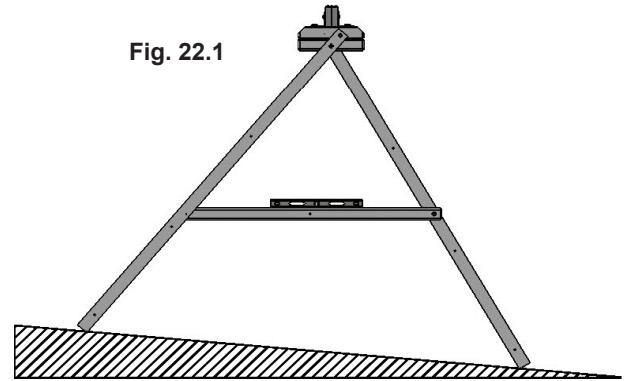

Fig. 22.1
A: To adjust for uneven ground, raise or lower the (221) Support Cross on the (213) SW Post. Make sure the Support Cross is level prior to attaching with the lag screws. (fig. 22.1 and 22.2)